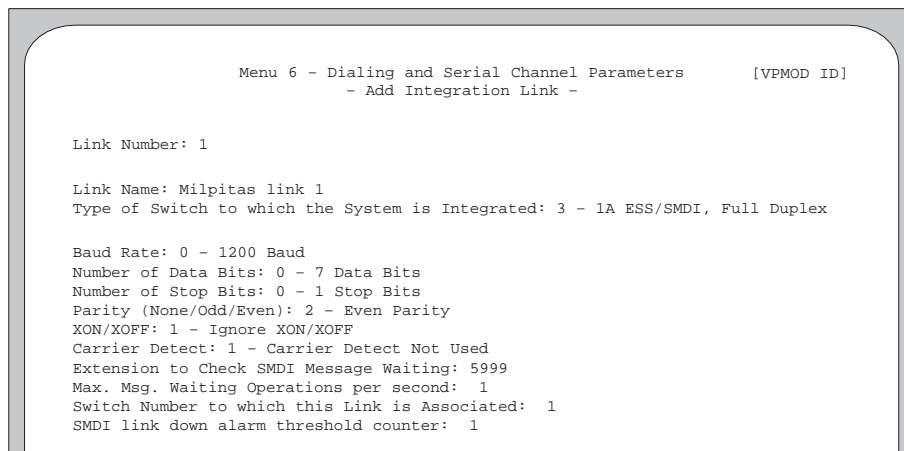

Figure 5-21. Example of a Completed Screen for Menu 6.5.1.
1. Select option **1** from menu 6.5 to add integration links. Menu 6.5.1 appears, with only the **Link Number:** field displayed. Figure 5-21 is an example of menu 6.5.1 with all fields displayed and completed.